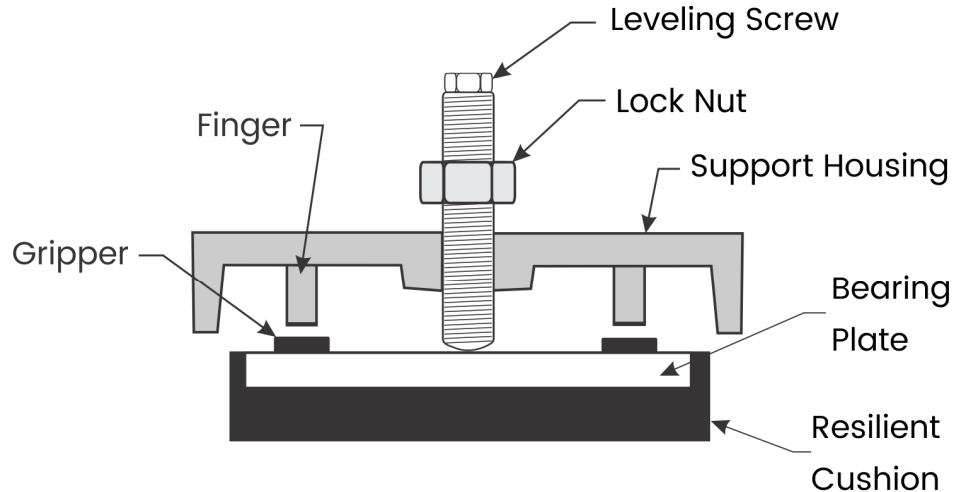

Figure 2
8. Continue to turn the Leveling Screw into the Housing until the Resilient Cushion and the Bearing Plate assembly separate from the Finger. See Figure 2. Pivoting the Housing back and forth on the Leveling Screw will help separate the parts. Be careful not to rip or tear the Resilient Cushions during this process.